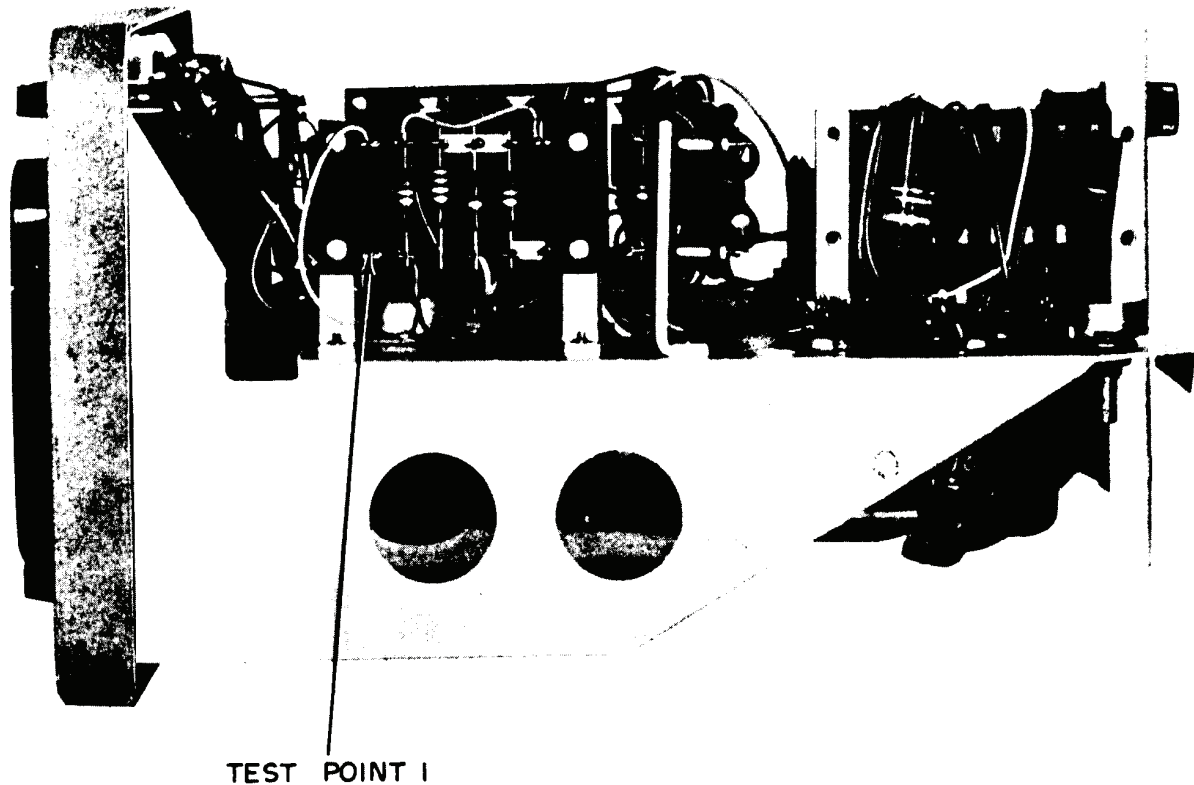
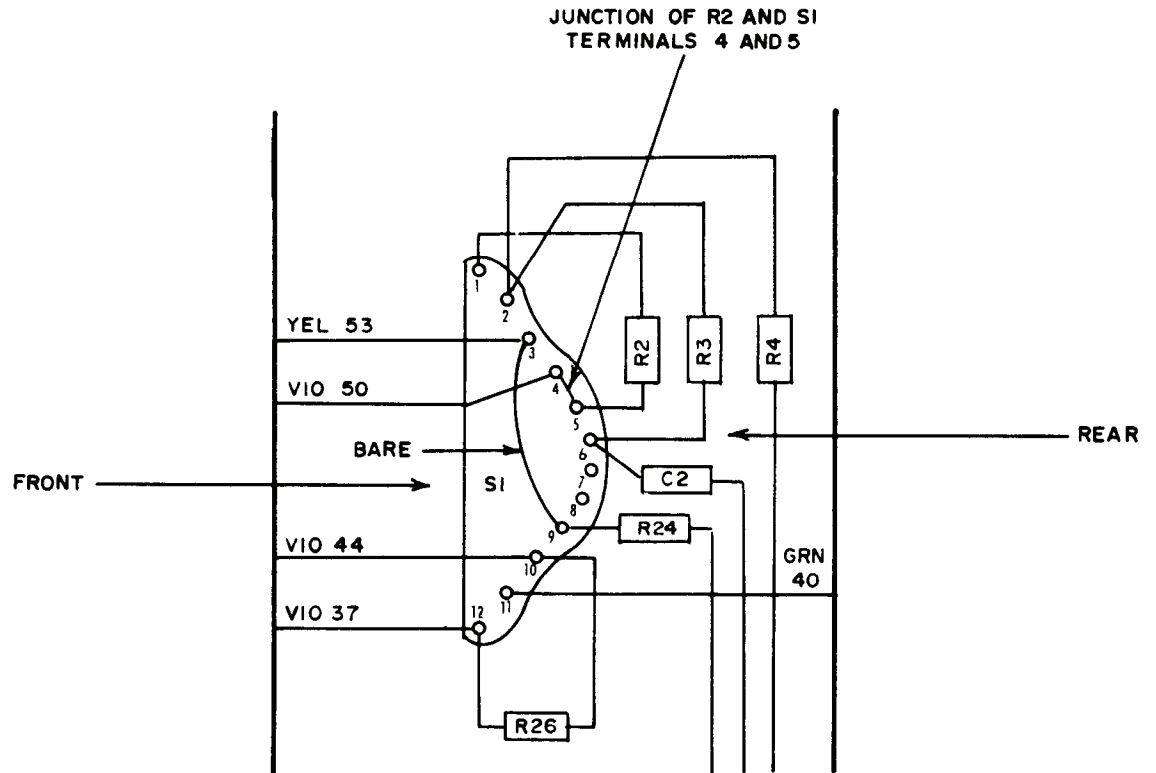

Figure 2. Test instrument - top view.
Figure 3. Wattmeters TS-779B/U and Model 451 BOLO RES switch S1 test point location - right side view
(1) Connect multimeter between **TEST POINT 1** (fig. 2) and chassis ground. For TS-779B/U and General Microwave Model 451, connect multimeter to junction of R2 and S1 and terminals 4 and 5 (fig. 3).
- (4) Connect multimeter to **TEST POINT 1** (fig. 2). For TS-779B/U and General Microwave Model 451, connect multimeter to junction of R2 and S1 terminals 4 and 5 (fig. 3).
- (5) Change **BOLO BIAS CURRENT** (**BIAS CURRENT** on TS-779B/U) switch positions until multimeter indicates 2.5 V ac.
- (6) Adjust **ZERO SET COARSE** and **FINE** controls for a 3.0 V ac indication on multimeter.
- (7) Connect multimeter between bolometer and **TI BOLOMETER** connector.